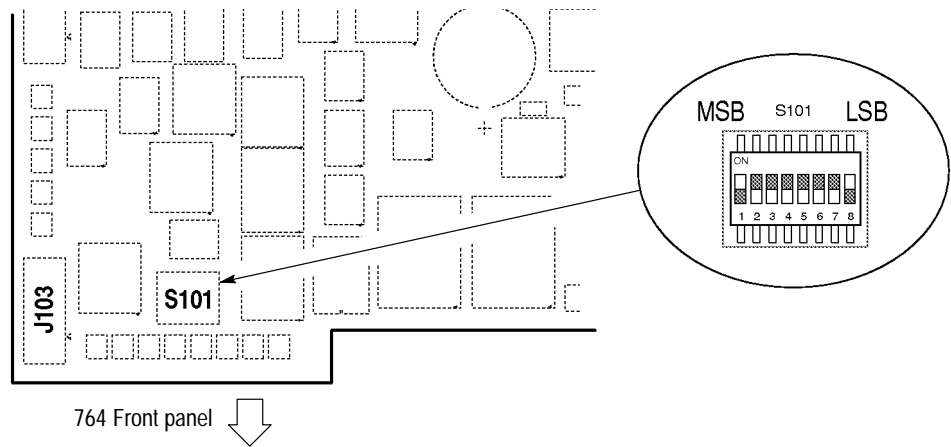

Figure A-2: S101 location and settings for remote diagnostics mode
5. Set the 764 Digital Audio Monitor bottom-side up and locate DIP Switch S101 on the Main circuit board. Set Switches 1 and 8 to the ON position (see Figure A-2).